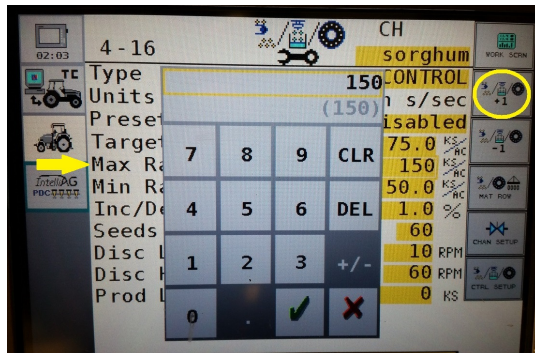

Figure 13
Step 8. Select **Max Rate** and enter. The Max Rate is setting the maximum it will let you adjust the rate while going through field using (+) button. (Figure 13)